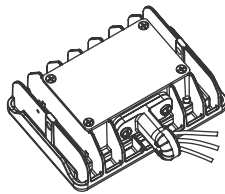

Fig. 1.2
3. Match the hole of the hardware and rubber gasket with the bracket. Then pass the wire through the hole, and connect with bolts (Fig. 1.2). Do not scratch the wires.